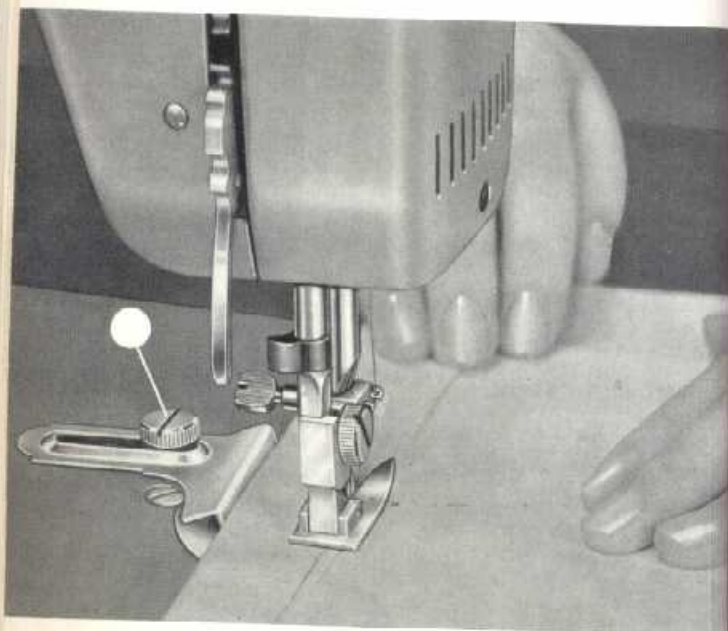

Fig. 83
- 1) Attach cloth guide to bed of machine by means of a thumb screw which fits into one of the screw holes in the bed of the machine (Fig. 83).